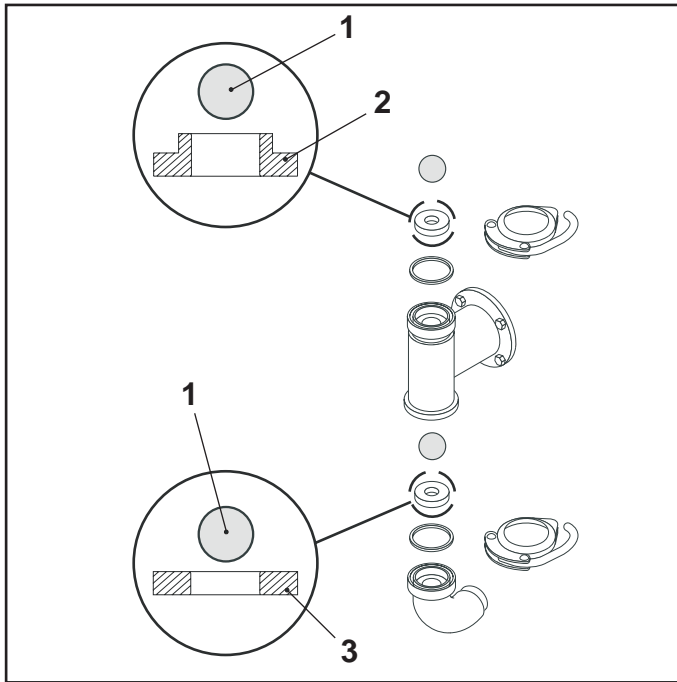

FIG.23
- 5) Two steel ball valves (FIG.23-REF.1).
- 7) Valve seats (optional) (FIG.23-REF.2/3).
- Replace the rubber ball valves with the steel ball valves in the kit (FIG.23-REF.1).
- Replace the supplied valve seats with those for the kit (FIG.23-REF.2/3).